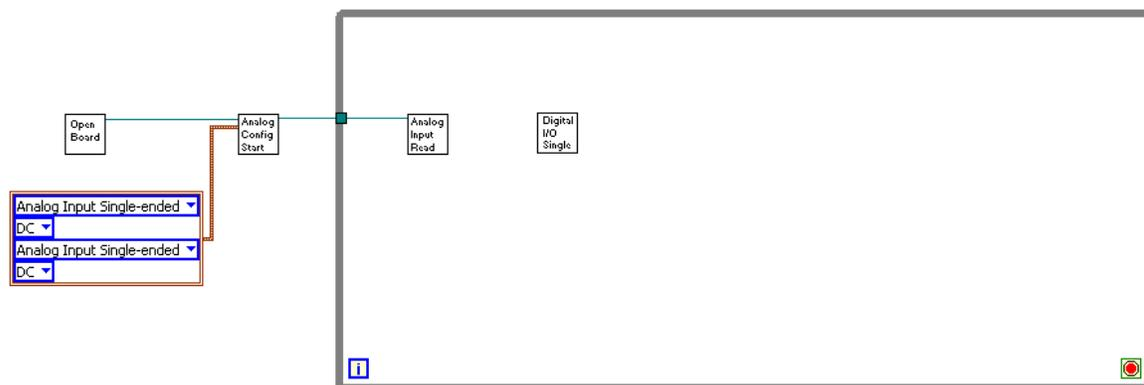

FIGURE 7 - WHILE LOOP ADDED
- Next, we will add a while loop so that our program will run continuously. To do this, right-click on any blank part of the block diagram. This will cause the function palette to appear. The “Programming” section should already be visible, so move your cursor over the “Structures” icon. Click on the “While Loop” icon. Finally, click and drag a box around the “Analog Input Read” and “Digital I/O Single” blocks (Figure 7) and a grey box will appear, as seen below.